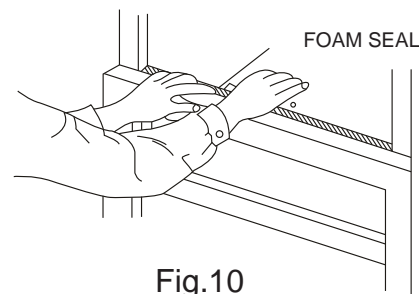

Fig.10
C. Cut the window sash sealing foam and insert into the space between the upper and lower sashes, as shown in Fig. 10.